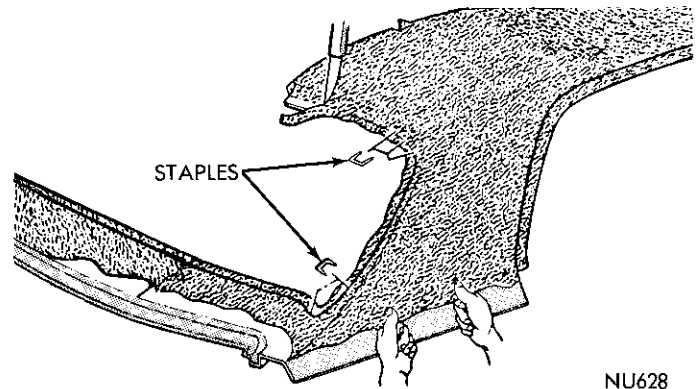
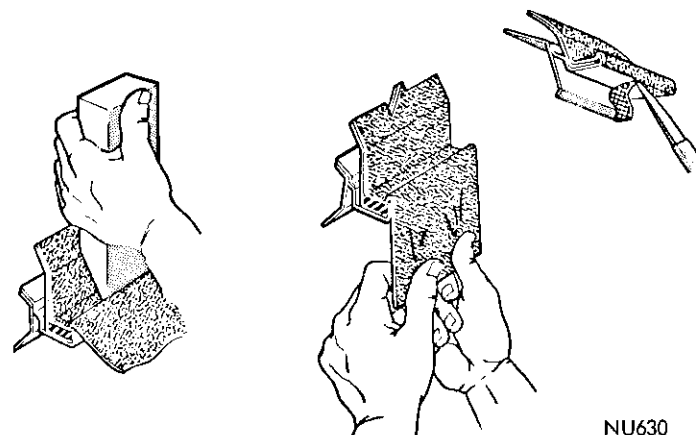

Fig. 6—Cover Application at Windows (4 Door)
Fig. 8—Trimming Cover at Drain Troughs
(14) Trim excess material at inside corner of "C" pillar face and blend upper trimmed edge to join trimmed edge of cover at drain trough (Fig. 8).
(15) Locate and punch holes in cover material, at belt moulding holes in roof extension, on a line 3/16 inch below the holes.
(16) Grasp edge of cover and while pulling material outward and down, use upper edge of drain trough flange as a breakover for draping material on to the flange face (Fig. 6). Use care to avoid pulling cover material loose at base of drain trough.
(17) Press material against drain trough flange face.
(18) Trim excess material, hanging below flange, about 1/8 inch above lower edge of flange (Fig. 8).
(19) Apply a 1/8 inch bead of sealer over trimmed edge of cover at roof extension belt area and smooth out to form a seal.
(20) Apply a bead of sealer to edge of cover and blend upward to form a seal over staples and edge of cover.
(21) Locate and punch holes in cover at roof extension belt line.
(22) Trim cover on a line 1/4 inch below belt line moulding holes (Fig. 8).